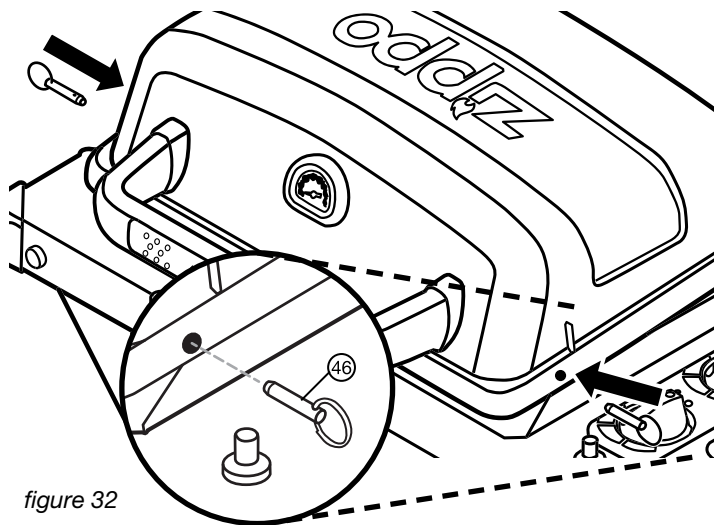

figure 32
Install (46) Lid Pins through holes as shown in figure 32.